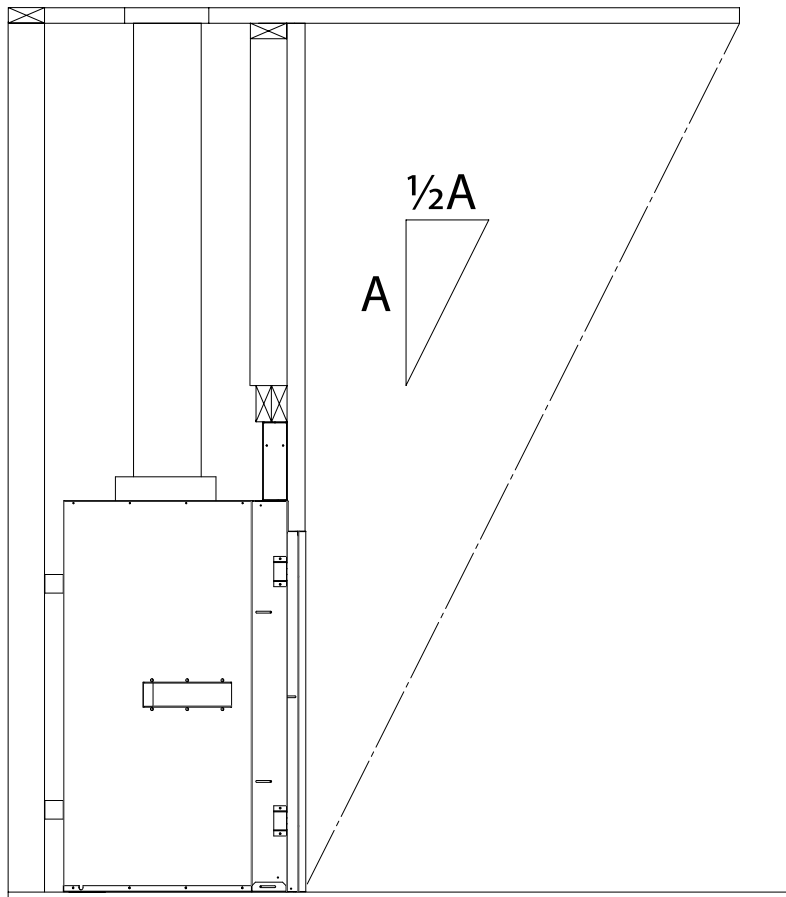

Figure 52: Overhang Depth Requirements
- The fireplace must be protected by an overhang with a depth that is at least equal to half of its height from the base of the fireplace, as shown in Figure 52.